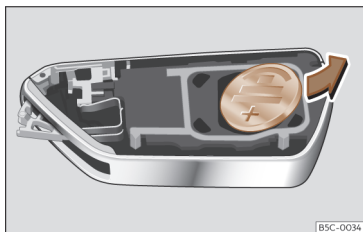

Fig. 73 Vehicle key: removing the battery.
- Remove the battery from the compartment with a suitable fine object >>> **Fig. 73**.
- Insert the new battery and press it into the battery compartment >>> ③.